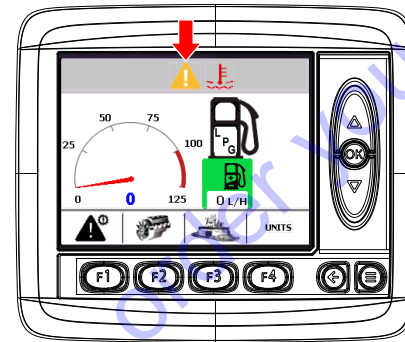

Figure 40. Fault Icon
- If the fault icon (Figure 40) on the digital display turns on (**AMBER** or **RED**), shut down the engine and correct the problem. Press the **F1 button** to view active faults. The digital display will show a fault code and a description of the problem. See Table 12–Table 19 for a comprehensive list of active fault codes and countermeasures.